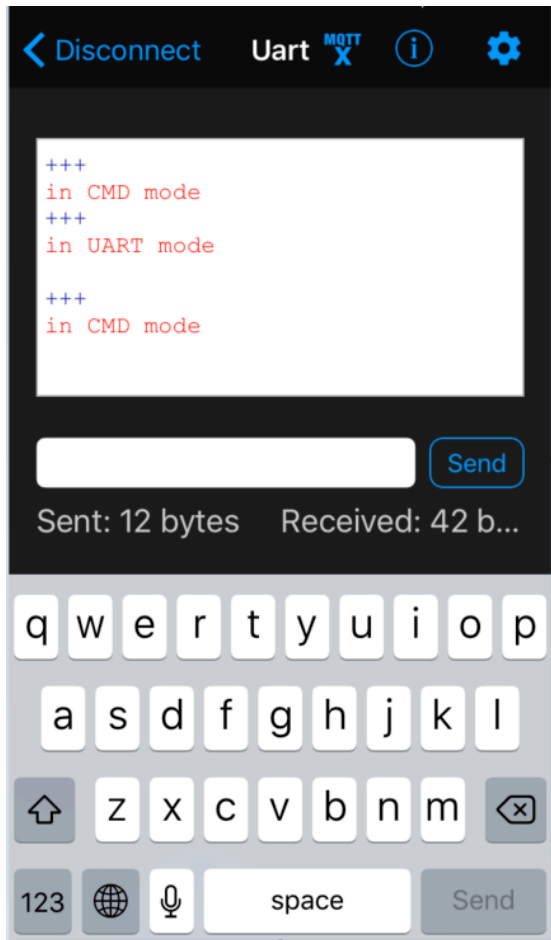

Fig. 4: UART and CMD Modes Toggle
1. On UART screen on Bluefruit enter “+++” and press “send” to toggle between CMD Mode and UART Mode, as demonstrated in Fig. 4